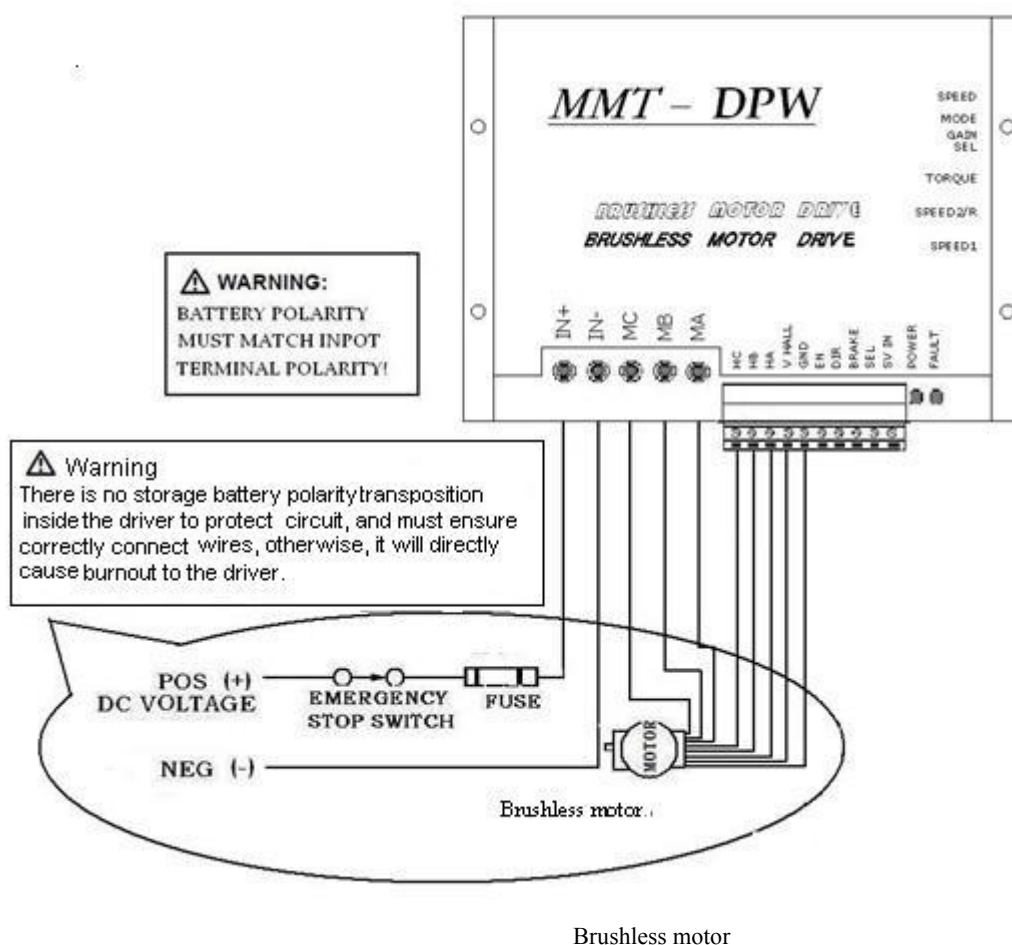

Figure 3
1. It must be equipped with a fast fuse and electromagnetic relay contactor between power input end of driver and power supply (storage battery) to realize emergency power off in case of suddenly power cut. See Figure 3
2. Motor connecting: see Figure 3